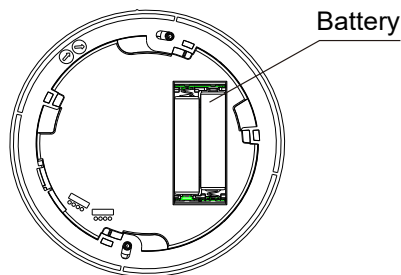

Fig. 5 – Battery compartment
1. Open the seal of the battery and fit them into the battery compartment on the underside of the smoke alarm, see Fig. 5.